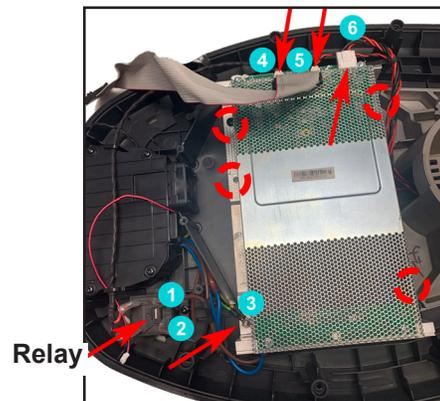

Figure 13. Detach Cables Connection
3.4 Disconnect the 6 wires connection. Cable ④ is to 250V Relay. Cables ⑤ ⑥ are from Array base bracket. Figure 13.
3.5 Remove the 4 screws securing the Power-Amp board. Figure 13.